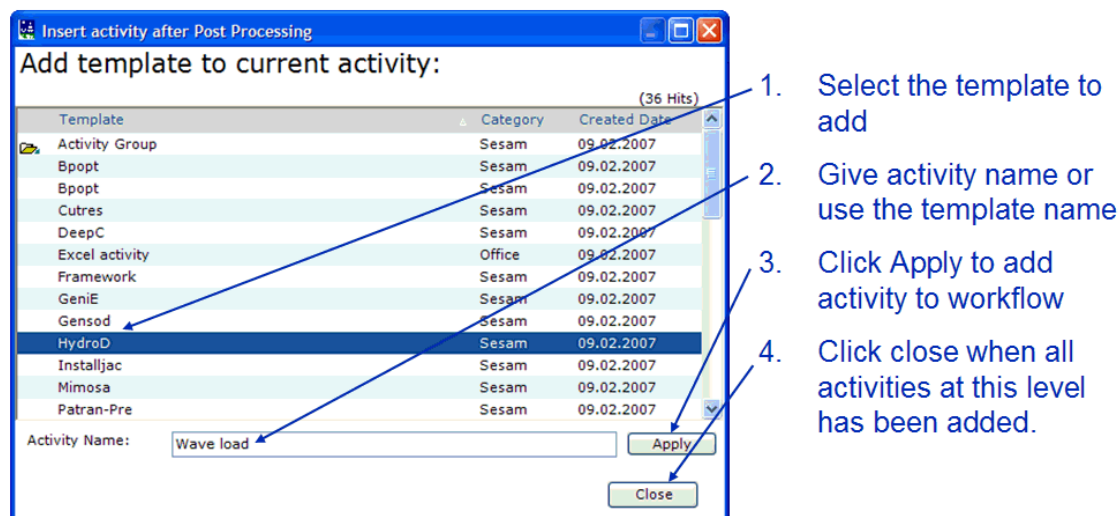

Figure 3.13 The Insert Activity dialog - Activity Name is used as both Name and Long Name
- **Append Activity** – The new activity will be a child of the activity from which this command is executed. An activity folder is automatically created. This command is only available from Job Root and Activity Groups. See Figure 3.13 for details.
- **Insert Activity** – The new activity will be inserted after the activity from which this command is executed. An activity folder is automatically created. This command is not available from Job Root. See Figure 3.13 for details.